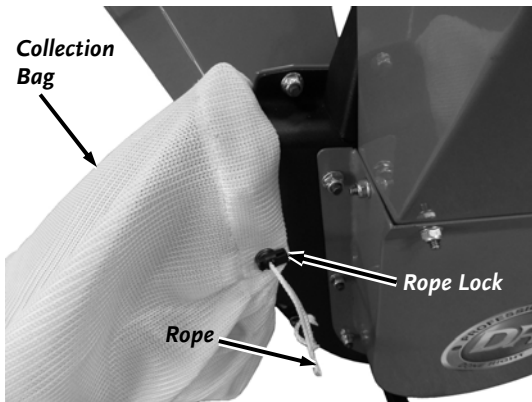

Figure 20
2. Squeeze the Rope Lock and pull the Rope to cinch the Collection Bag tightly around the housing tabs then release the Rope Lock (Figure 20).